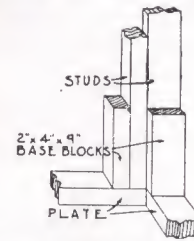
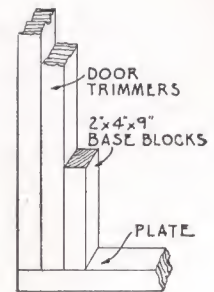

FIGURE 74
FIGURE 73
- (a) In order to have a solid nailing for the ends of the base on the interior of the rooms, it is necessary to use base blocks. These are 2"x4"x9" and are branded or marked BASE. Base blocks stand on top of the bottom plate and against the studs in all corners of the rooms (see Figure 73). They must also be used against the door trimmers (see Figure 74).